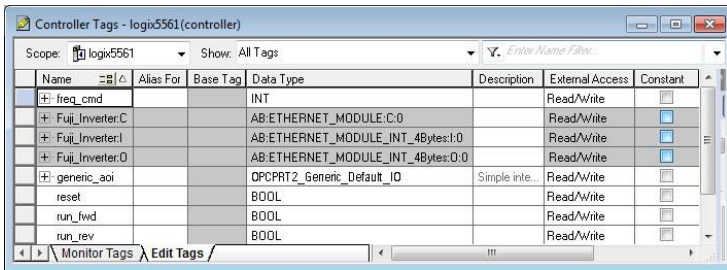

Figure 42: Create Generic Default AOI Tags
- 4) Create the tags in Figure 42.